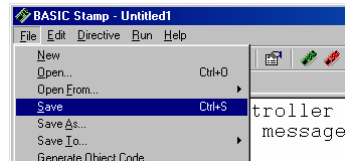

Figure 1-37
- ✓ Save your work by clicking *File* and selecting *Save*, (shown in Figure 1-37).